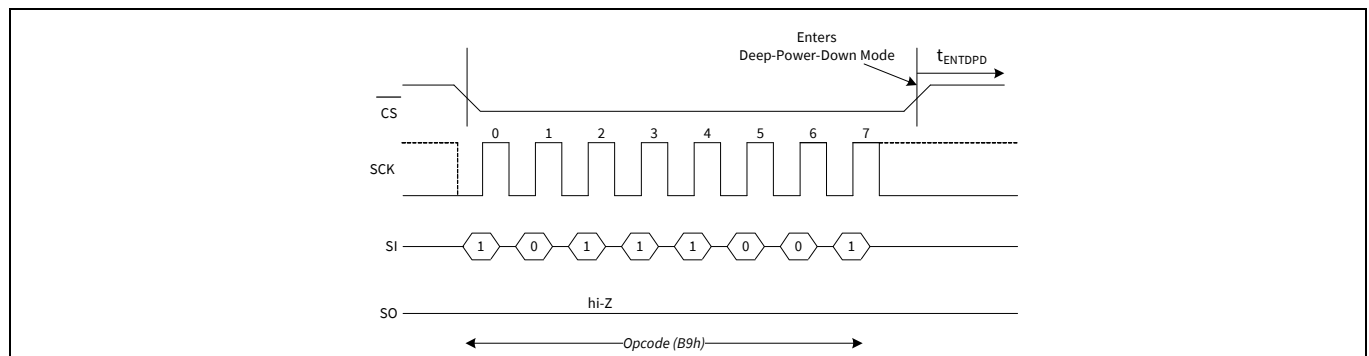
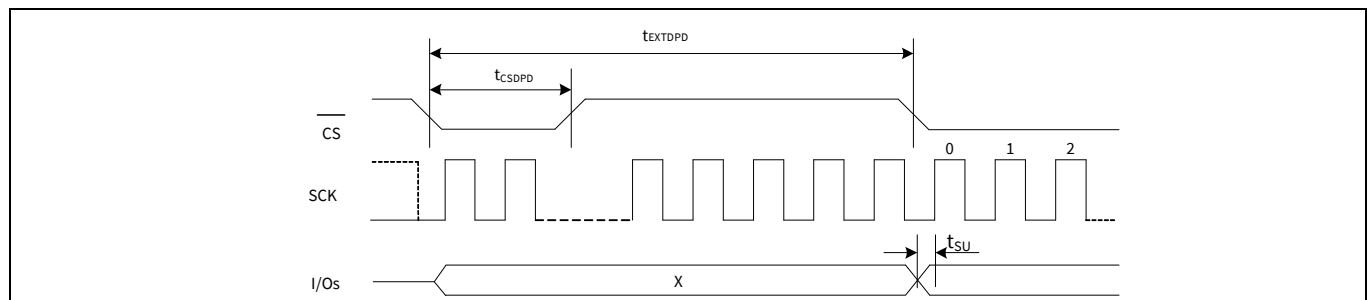

Figure 99 DPD entry in SPI mode
Figure 102 DPD exit in SPI mode
A \overline{CS} pulse-width of t_{CSDPD} or hardware reset exits the DPD mode after t_{EXTDPD} time. The \overline{CS} pulse-width can be generated either by sending a dummy command cycle or toggling \overline{CS} alone while SCK and I/Os are don't care. The I/Os remain in hi-Z state during the wakeup from deep power-down. See Figure 99 for DPD entry and Figure 102 for DPD exit timing.
- The timing details shown in the Figure 99 are applicable as is in DPI and QPI modes.